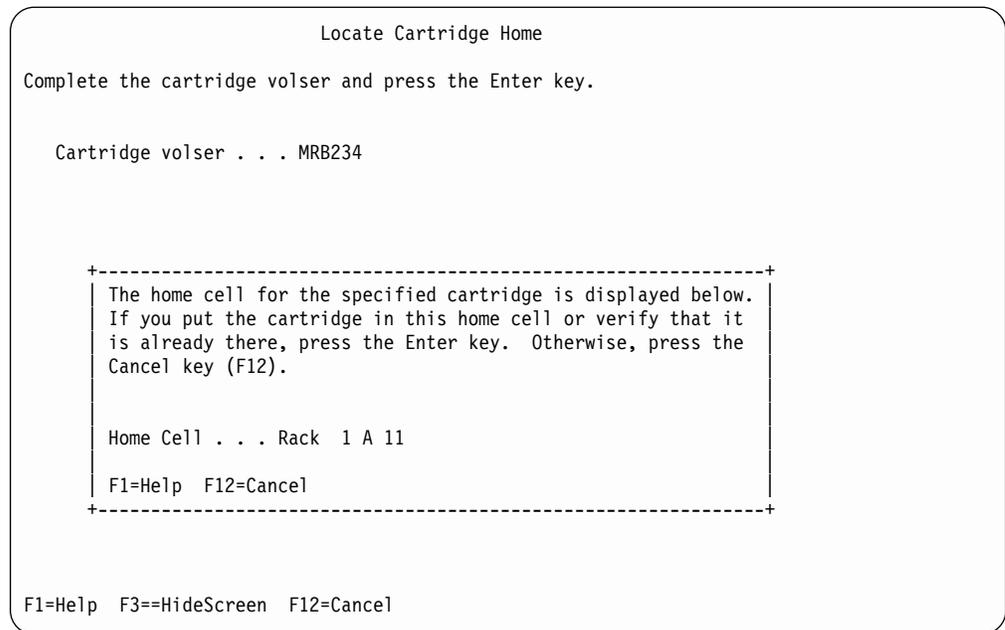

Figure 156. Manual Mode Locate Cartridge Home Window
- For an extended period of Manual mode, you may choose to use Figure 156 on page 255 to put the cartridges in their home cells.
If the Manual Mode Review List (Figure 154) did not list the volume, use the Locate Cartridge Home window (Figure 156 on page 255) to find a storage cell to put the volume in.
The home cell for the volume displays in the Locate Cartridge Home window (Figure 156 on page 255).